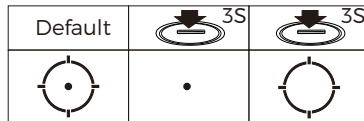

Fig 3
The reticle for 507K sight is a 2MOA dot centered in a 32MOA circle with four positioning points. (See Fig 3)
3. Battery replacement. (See Fig 3)